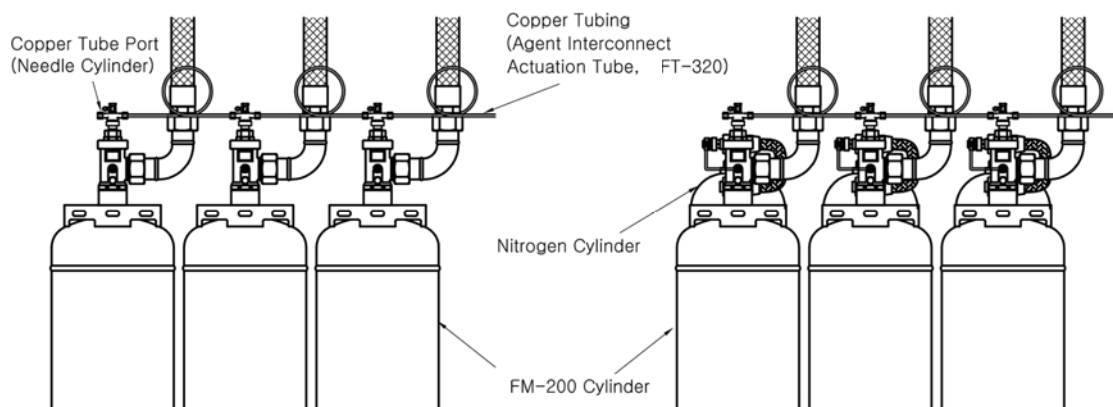

Figure 4.13. Installation of interconnected agent needle cylinders for multiple-cylinder single enclosure system.
2. When multiple-cylinder single-enclosure AFC-P227 is installed, interconnect the agent needle cylinders using the agent interconnect actuation tube (FT-320) via the corresponding copper tube ports (refer to Figure 4.13.).